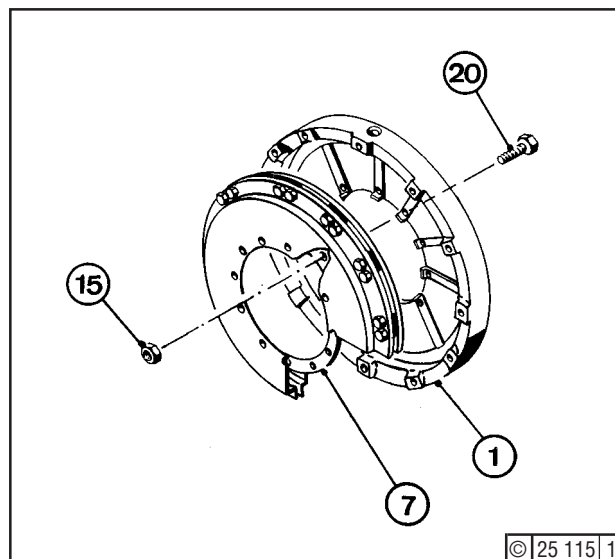

Fig. 4
Insert damping-disc pair complete with threaded ring (7) - Fig. 4 - into end plate (1). Fit hex. bolts (20) provided with Deutz DW 55. Tighten up end plate and damping-disc pair with hex. nuts (15) (Section 3.5, item 58).